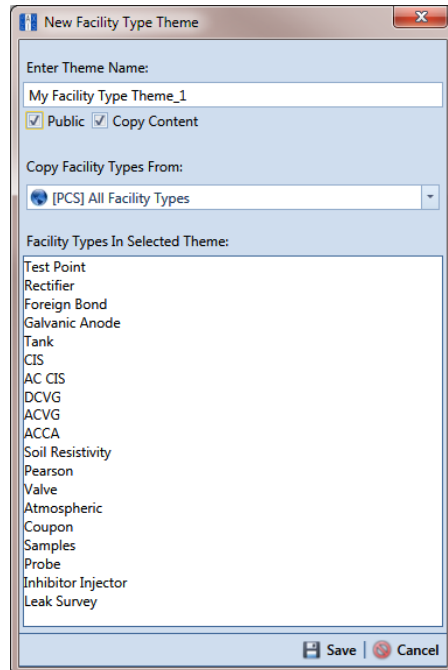

Figure 15-4. New Facility Type Theme
- 2 Click  **Add** to open the *New Facility Type Theme* dialog box (Figure 15-4).